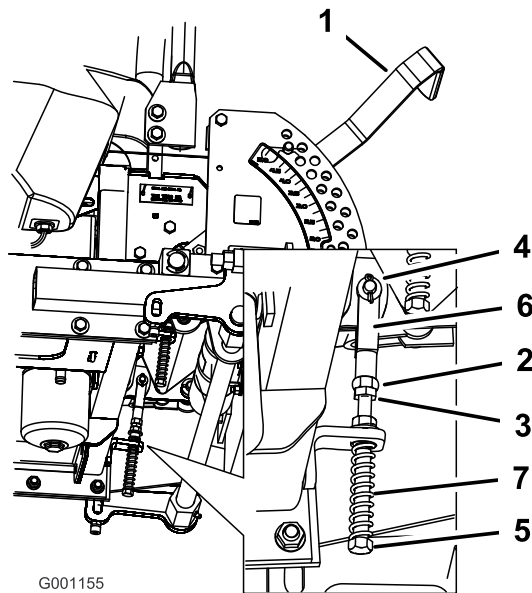

Figure 85
8. If adjustment is needed, loosen the nut and jam nut against the yoke (Figure 85).
9. While applying slight rearward pressure on the motion-control lever, turn the head of the adjustment bolt in the appropriate direction until the control lever is centered in the NEUTRAL-LOCK position (Figure 85).
10. Tighten the nut and jam nut (Figure 85).